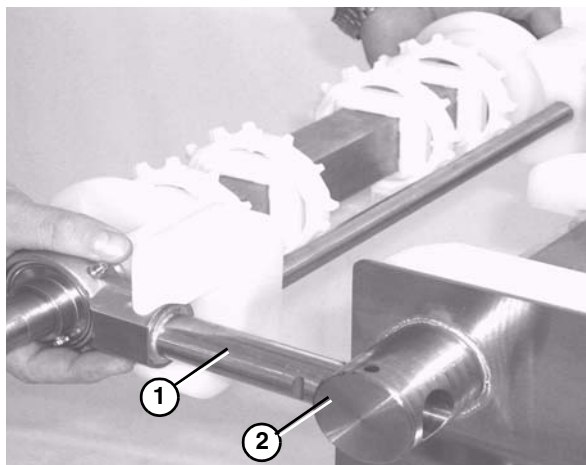

Figure 12
1. Slide the bearing shafts (**Figure 12, item 1**) into the take up blocks (**Figure 12, item 2**).